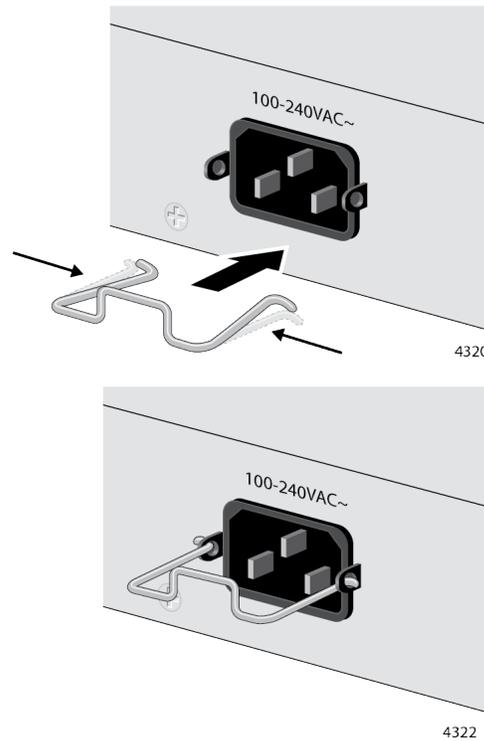

Figure 36. Installing the Retaining Clip
1. Position the power cord retaining clip with the “u” part facing down, press in the sides, and insert the ends of the clip into the holes in the retaining bracket on the AC connector. See Figure 36.